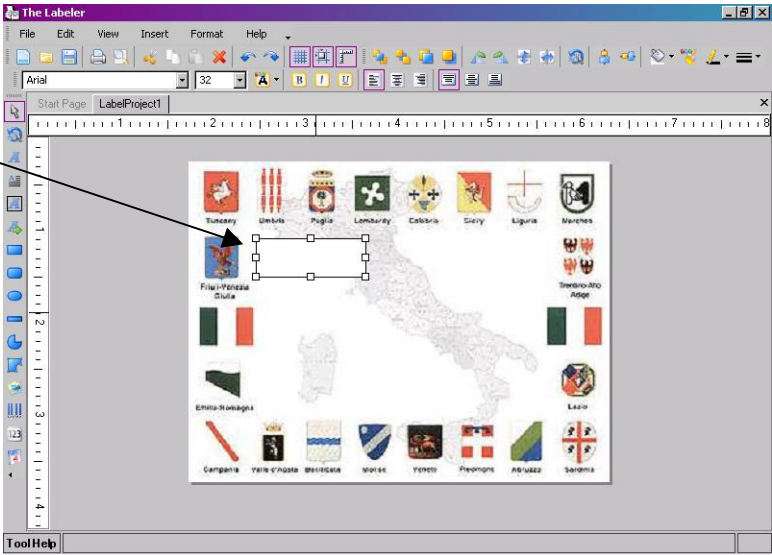

Figure 4.2.1.1: Select the shape to be moved
2. Press and hold down the left mouse button, at this point the lines of the shape will become dotted lines (see Figure 4.2.1.2).